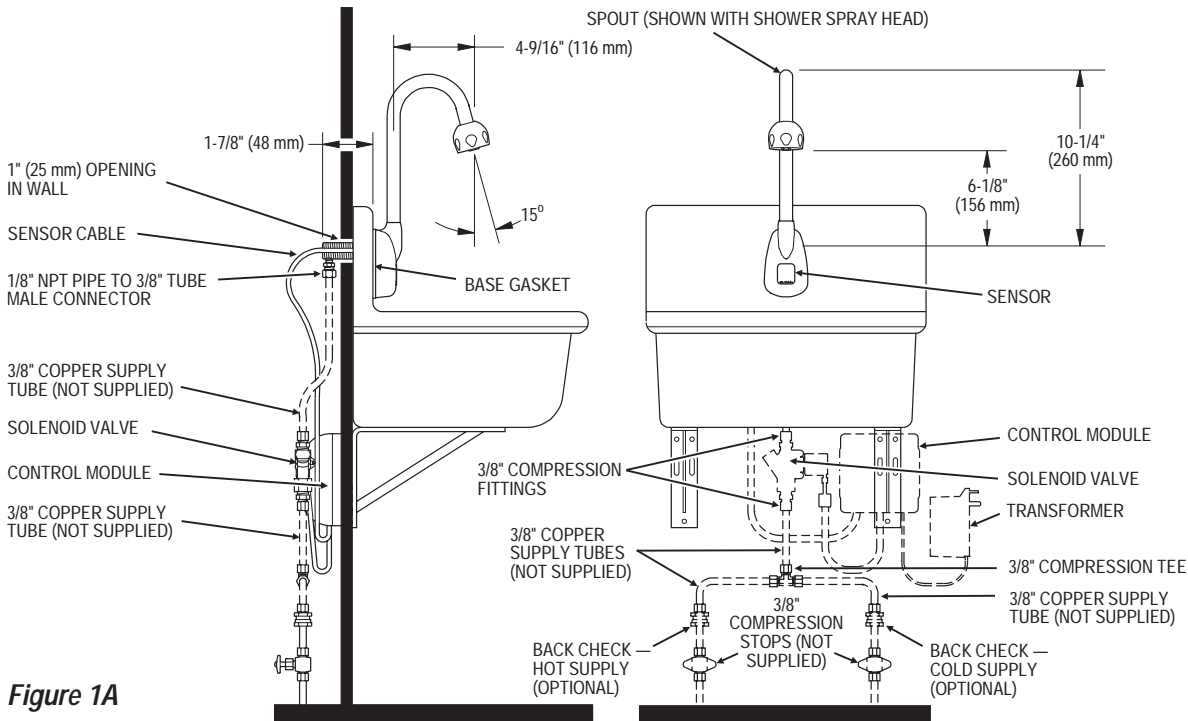

Figure 1A
Prior to installing the Sloan OPTIMA Series Faucet, install the items listed below. Also, refer to Figures 1A and 1B.
The Sloan OPTIMA ETF-500 Sensor Operated Gooseneck Faucet is a pre-tempered faucet. A pre-tempered water supply line or a mixing valve (ordered separately or supplied by others) must be used in conjunction with the faucet. When connecting the faucet to a hot and cold water supply, it is recommended that two back checks be installed as shown in Figure 1A. Water temperature can be controlled by adjusting the supply stops. When connecting the faucet to a single line water supply or a pre-tempered water supply, a back check is not required.
**Step 4 — Connect Supply Line(s) (Figures 1A and 1B)**
When connecting the Faucet to a hot and cold water supply, two Back Checks are required as shown in Figure 1A.
Install a 3/8 inch copper Supply Tube between each Back Check and the Compression Tee Fitting supplied (refer to Figure 1A).
Refer to Figures 1A and 1B — Faucet Rough-In for Additional Information.